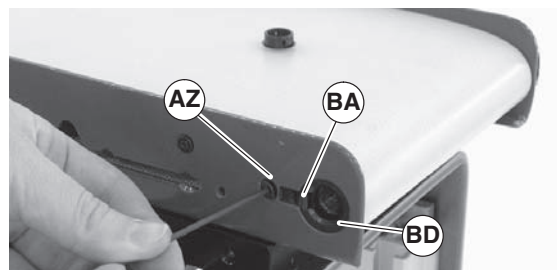

Figure 33
- Loosen but do not remove screw (Figure 33, item AZ). Push until pulley retaining sleeve clip (BA) pushes out.
- Remove retaining clip (BA) and screw (AZ).
- Position bearing anvil/sleeve removal tool (Figure 34, item BB) (25-09, part of tool kit 4500) over retaining sleeve (Figure 33, item BD).
6. Insert bolt (Figure 35, item BC) (906-278, part of tool kit 4500) into retaining sleeve (Figure 33, item BD).